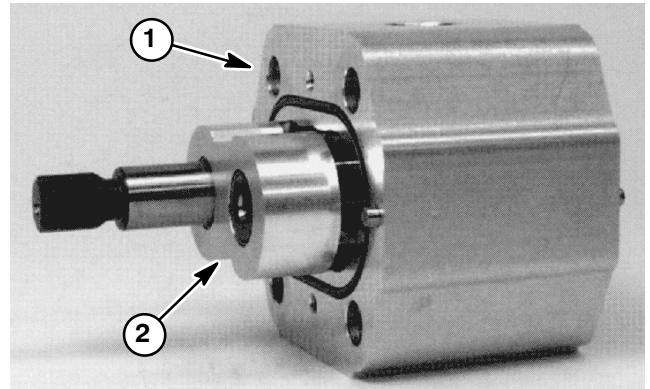

Figure 54
7. Place the motor on its side and push on the rear bearing block to remove the bearing block and gear set (Fig. 54).